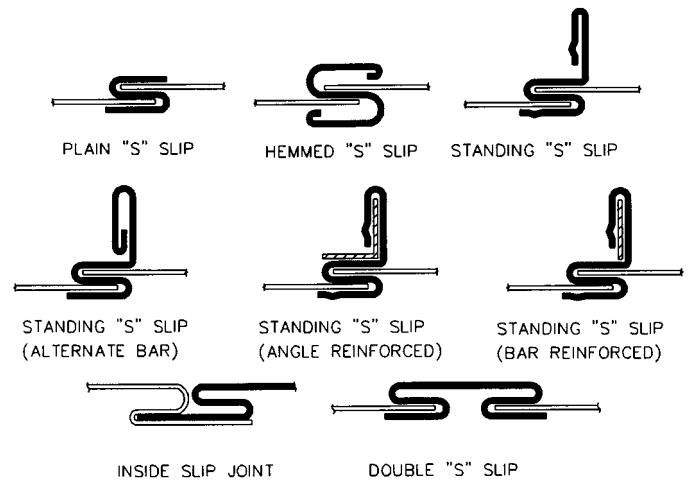

Figure 3
4. **Duct Connections** - UL Standard 555 requires all duct connections to be either rigid or breakaway types. Rigid connections for sleeves of this size require a minimum of 14 Ga. Lighter gauge sleeves are allowed when used in conjunction with a UL approved breakaway connection (see Figure 3). Minimum sleeve gauge for large scale multiple section horizontal mount dampers is 16 Ga.